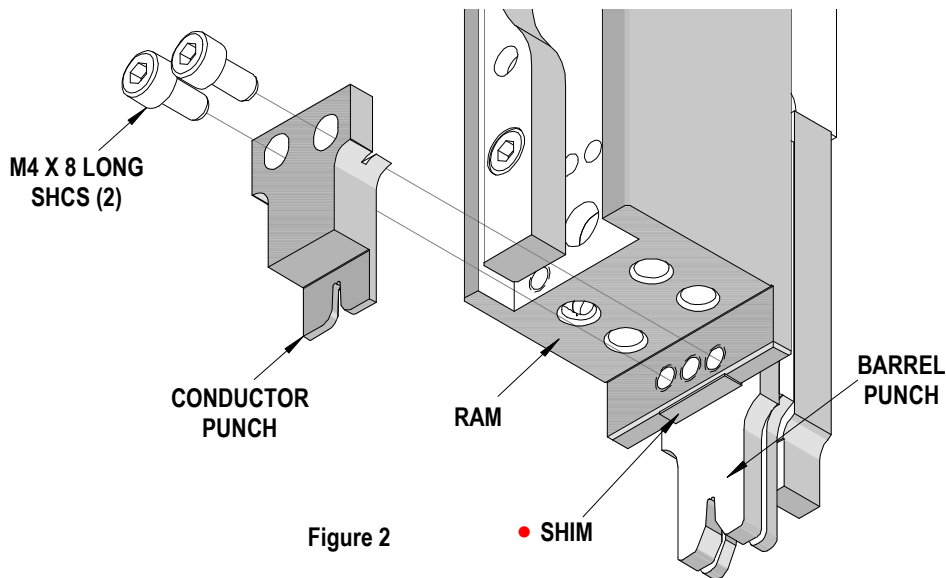

Figure 2
- 2 To achieve the reference "D" dimension listed in the chart above, a (.38mm) .015" thick shim is required. These shims are not supplied with the applicator. The shim should be located between the ram and the conductor punch. See Figure 2.